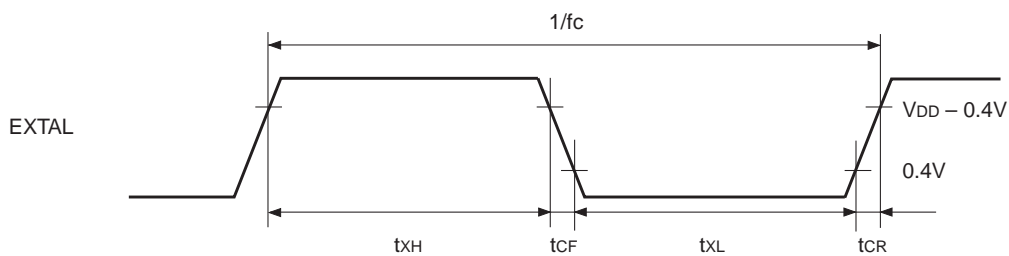
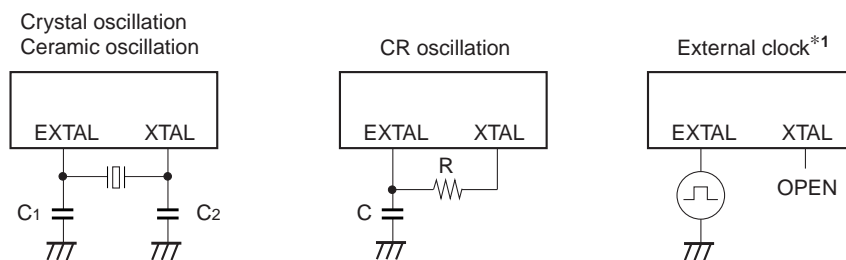

Fig. 1. Clock timing
Fig. 2. Clock applying condition
| System clock frequency | fc | XTAL EXTAL | Fig. 1., Fig. 2. | 1 | 5 | MHz |
| System clock input pulse width | t _{XL} t _{XH} | EXTAL | Fig. 1., Fig. 2.*1 External clock drive | 90 | | ns |
| System clock input rising and falling times | t _{CR} t _{CF} | EXTAL | Fig. 1., Fig. 2.*1 External clock drive | | 200 | ns |
*1 The external clock in Fig. 2. is specified only when the option is selected for crystal or ceramic oscillation.
Note) When adjusting the frequency accurately, there may be cases in which they differ from Fig. 2.